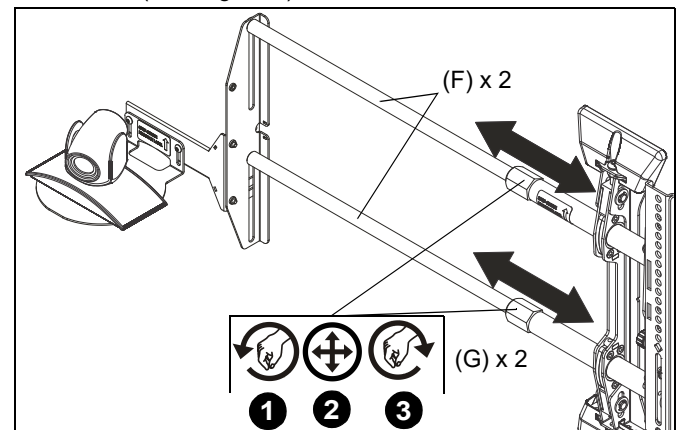

Figure 7
- Loosen two bushings (G) connecting extension bars (F) to mount. (See Figure 7)
- Adjust arm to desired length. (See Figure 7)
- Tighten two bushings (G) until connection to mount is secure. (See Figure 7)